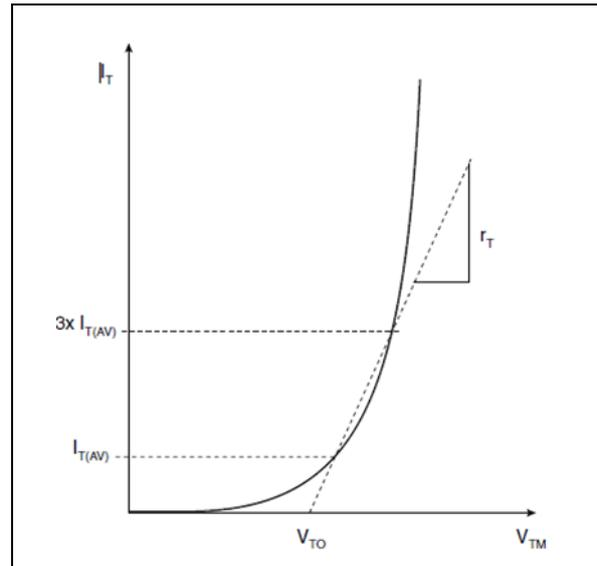

Fig. 2
2. As fig. 2, where a chord is drawn through  $I_{T(AV)}$  and  $3x I_{T(AV)}$ . For rectifier diodes, a chord through  $3x I_{T(AV)}$  and  $5x I_{T(AV)}$  sometimes gives a better result.